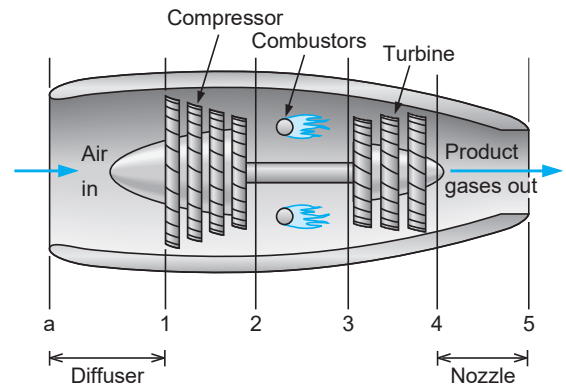

FIGURE P6.109
- 6.109** A modern jet engine has a temperature after combustion of about 1500 K at 3200 kPa as it enters the turbine section (see state 3, Fig. P6.109). The compressor inlet is at 80 kPa, 260 K (state 1) and the outlet (state 2) is at 3300 kPa, 780 K; the turbine outlet (state 4) into the nozzle is at 400 kPa, 900 K and the nozzle exit (state 5) is at 80 kPa, 640 K. Neglect any heat transfer and neglect kinetic energy except out of the nozzle. Find the compressor and turbine specific work terms and the nozzle exit velocity.